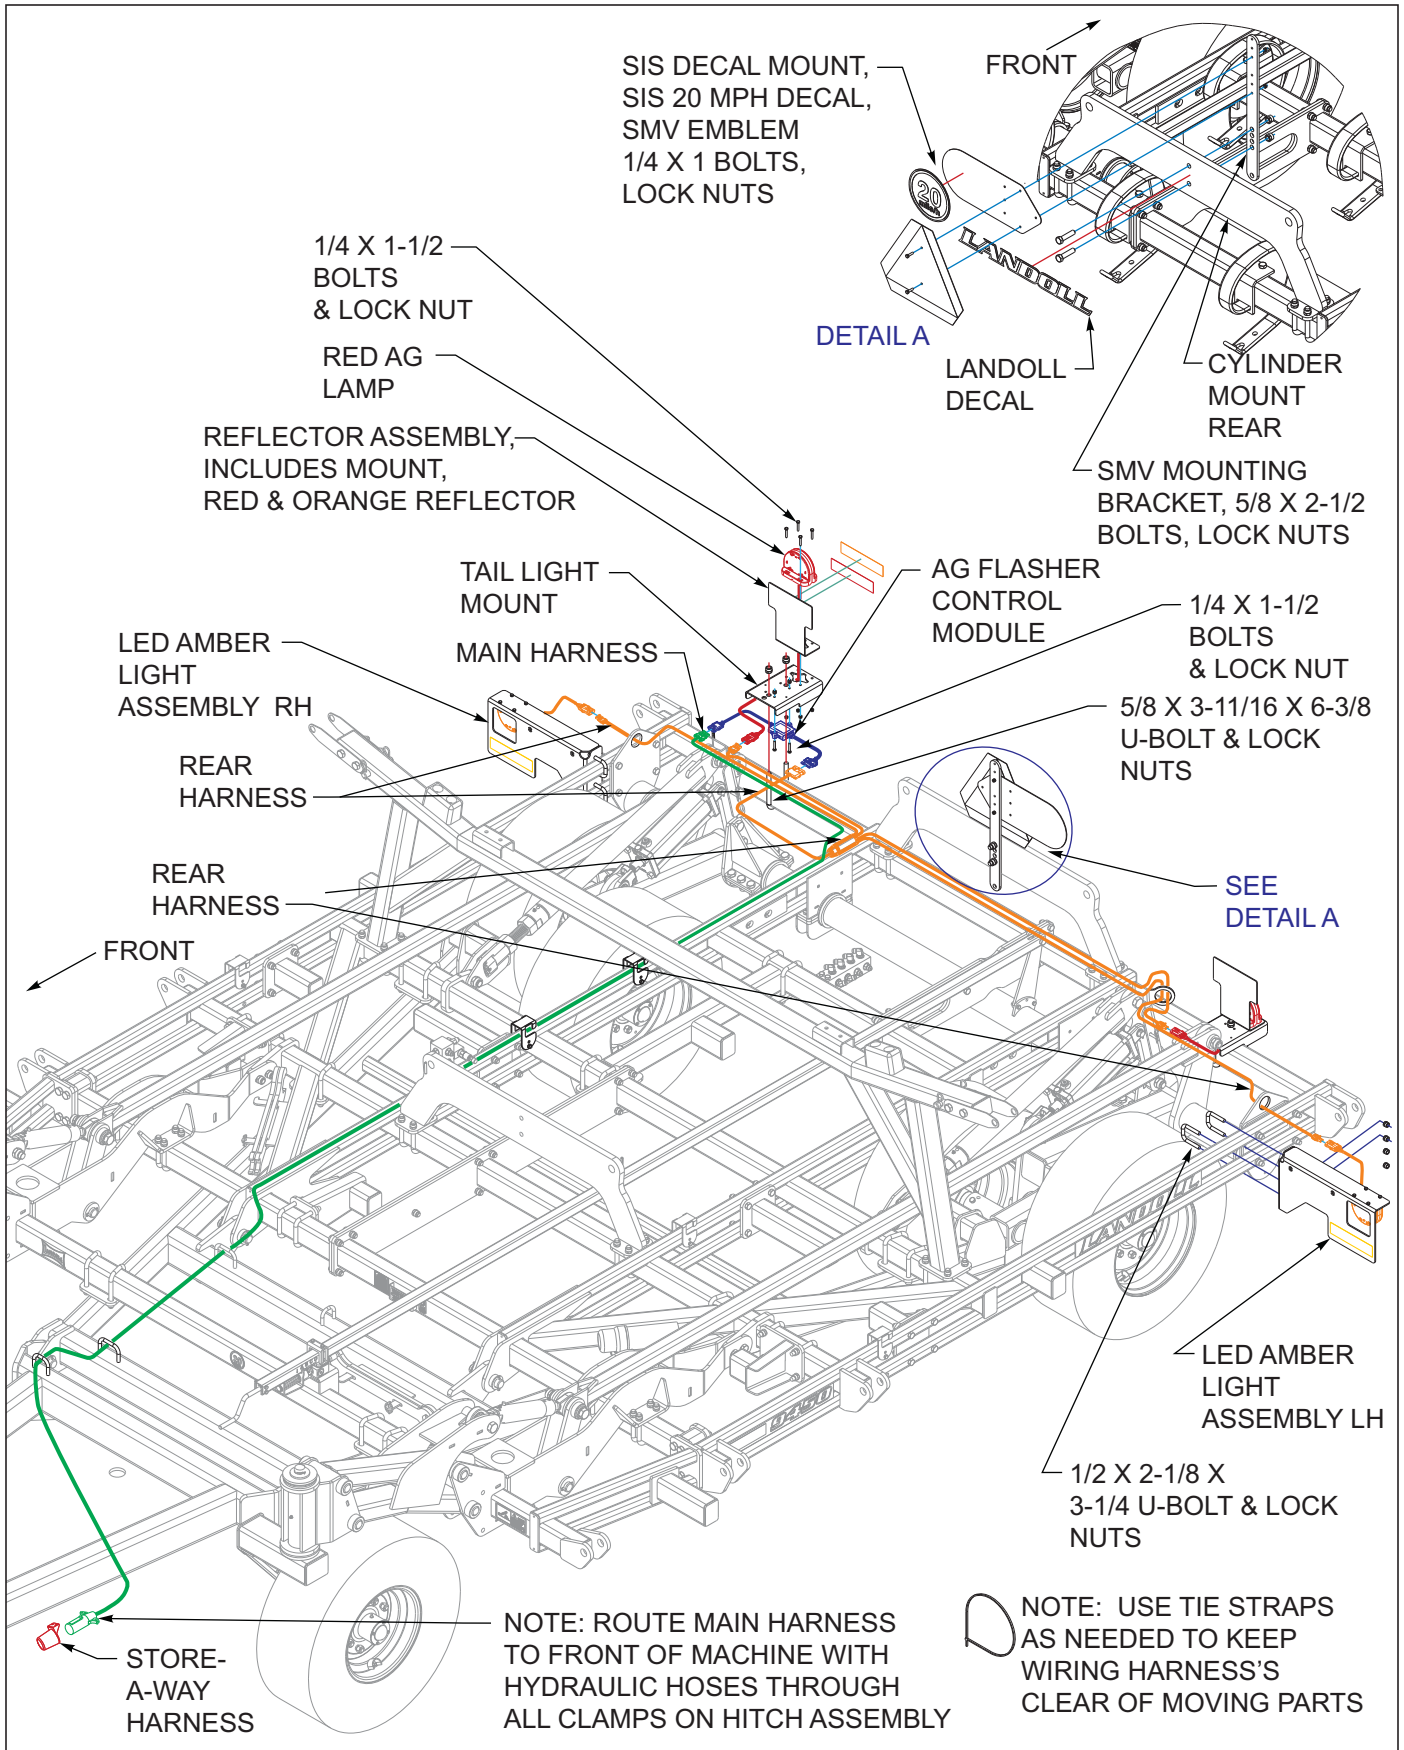
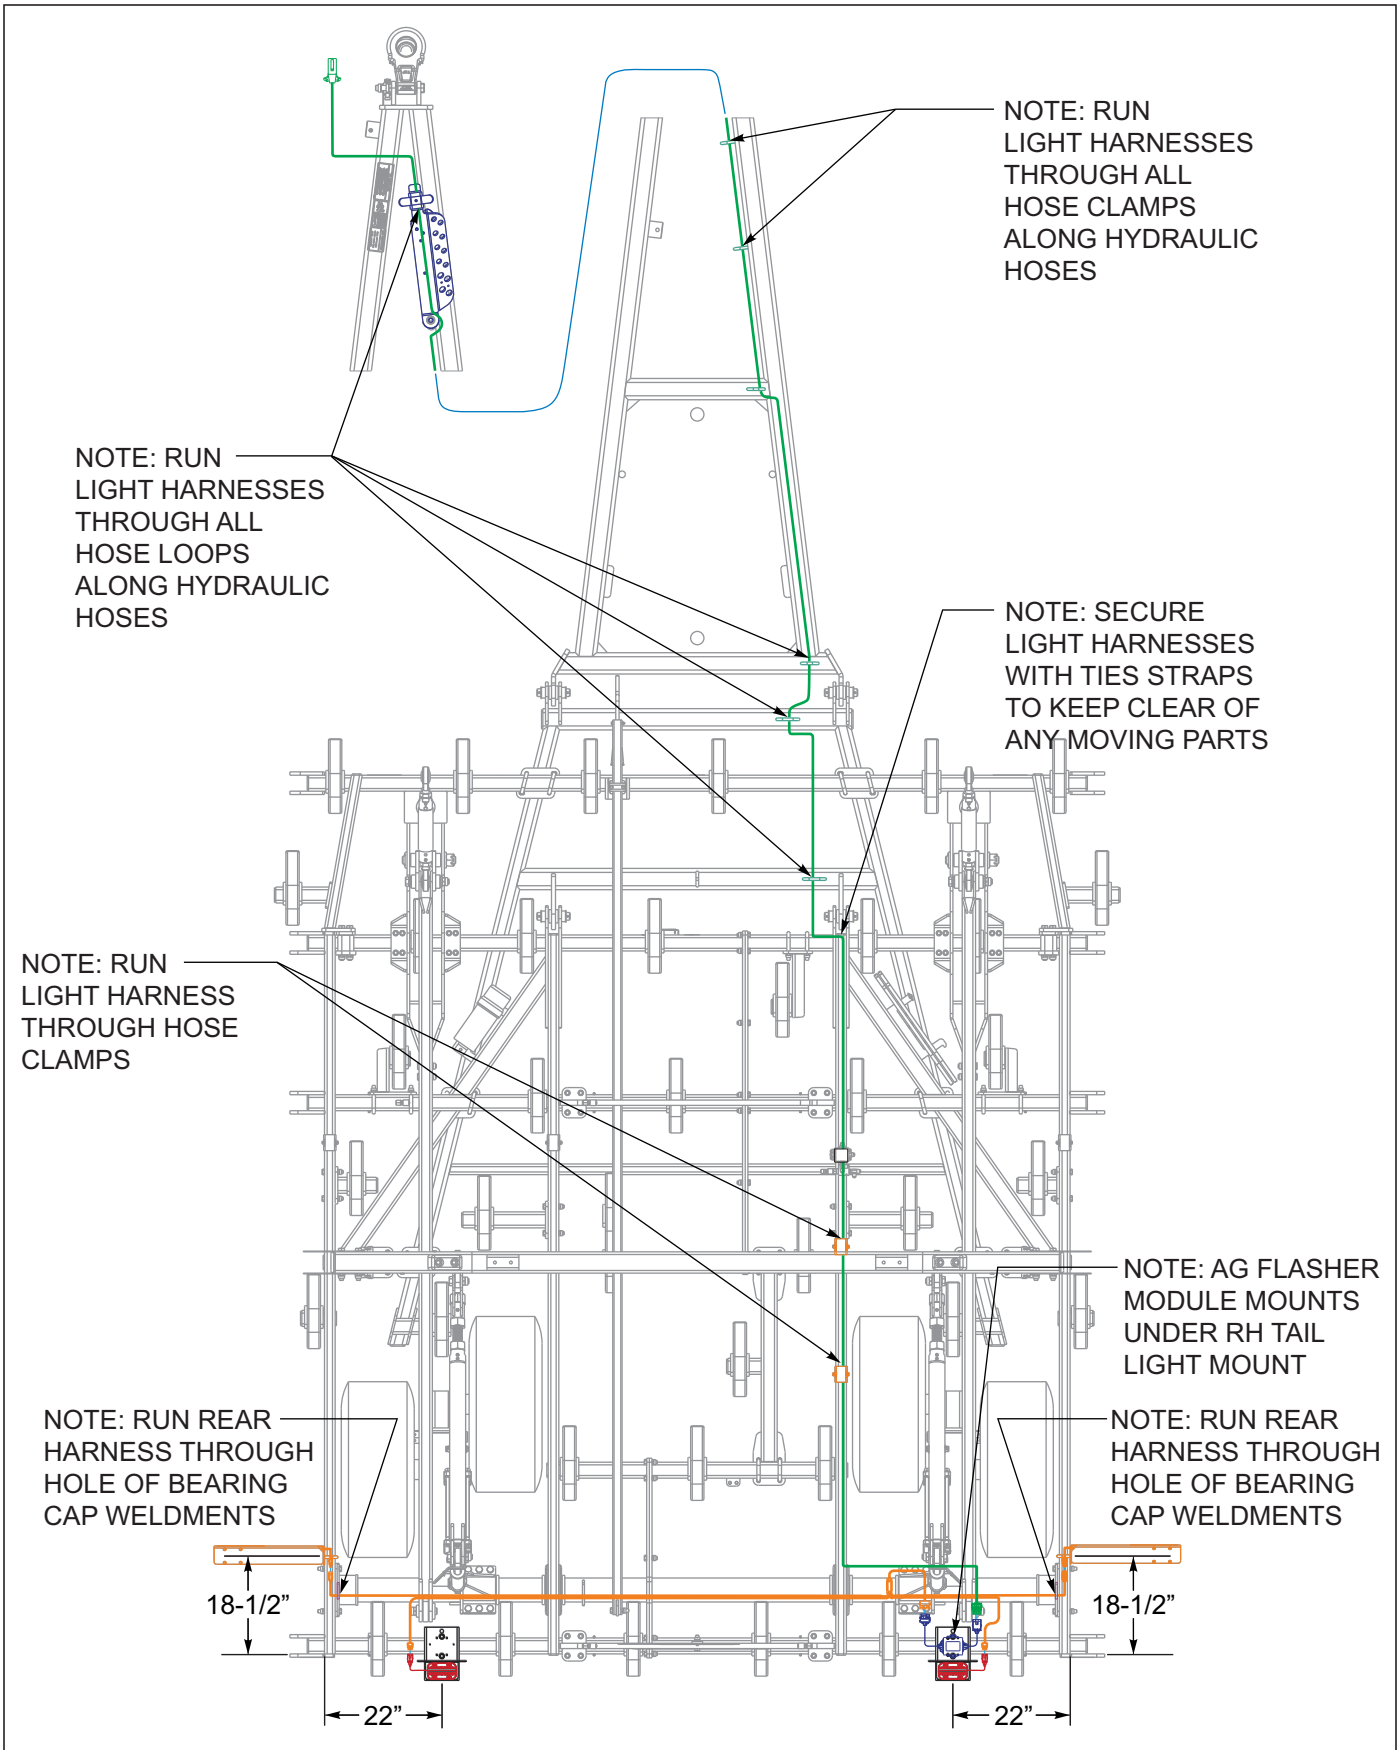

Figure 3-17: LED Light Installation
Figure 3-18: LED Light Layout
1. Attach LH and RH light bracket assemblies to center frame using 1/2 x 2-1/8 x 3-1/4 u-bolt and lock nuts **See Figures 3-17** and **See Figures 3-18** for light bracket placement location.
9. Insure that the harnesses are clear of any moving parts and secure the harnesses with tie straps provided. **See Figures 3-18** for light harness routing.
11. Attach the smv mounting bracket to front side cylinder mount rear with 5/8 x 2-1/2 bolts and 5/8 lock nuts **See Figures 3-17** Detail A.